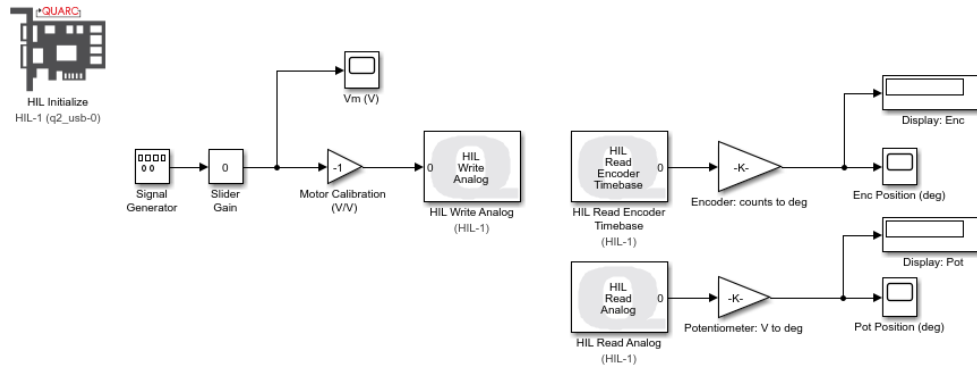

Figure 3.1: Simulink model used with **QUARC®** to drive motor and read angle on Rotary Servo Base Unit
In this lab, we will make a **SIMULINK®** model using **QUARC®** blocks to drive the DC motor and measure the corresponding load gear angle and velocity. To measure the position, a model similarly as shown in Figure 3.1 will be designed.
2. Connect the HIL Read Encoder Timebase to a Gain and Display block similar to Figure 3.1 (without the HIL Write Analog block). In the Library Browser, you can find the Display block from the Simulink | Sinks and the Gain block from Simulink | Math Operations.
1. Using the **SIMULINK®** model you configured for the Rotary Servo Base Unit in the previous section, add the HIL Read Analog block from the *QUARC Targets | Data Acquisition | Generic | Immediate* category in the Library Browser, similarly as shown in Figure 3.1.
2. Connect the HIL Read Analog to a Gain and Display block similar to Figure 3.1 (without the HIL Write Analog block). In the Library Browser, you can find the Display block from the *Simulink | Sinks* and the Gain block from *Simulink | Math Operations*.
1. Add the HIL Write Analog block from the *Data Acquisition | Generic | Immediate I/O* category into your **SIMULINK®** diagram, similarly as shown in Figure 3.1. This block is used to output a signal from analog output channel #0 on the data acquisition device. This is connected to the power amplifier (e.g. Quanser VoltPAQ-X1) that drives the DC motor.
2. Add the Constant block found in the *Simulink | Sources* folder to your Simulink model. Connect the Constant and HIL Write Analog blocks together, as shown in Figure 3.1.